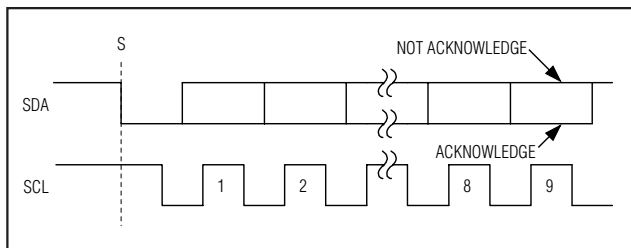

Figure 6. Acknowledge Bits
Data transfers are acknowledged with an acknowledge bit (A) or a not-acknowledge bit ($\bar{A}$). Both the master and the MAX1136-MAX1139 (slave) generate acknowledge bits. To generate an acknowledge, the receiving device must pull SDA low before the rising edge of the acknowledge-related clock pulse (ninth pulse) and keep it low during the high period of the clock pulse (Figure 6). To generate a not-acknowledge, the receiver allows SDA to be pulled high before the rising edge of the acknowledge-related clock pulse and leaves SDA high during the high period of the clock pulse. Monitoring the acknowledge bits allows for detection of unsuccessful data transfers. An unsuccessful data transfer happens if a receiving device is busy or if a system fault has occurred. In the event of an unsuccessful data transfer the bus master should reattempt communication at a later time.